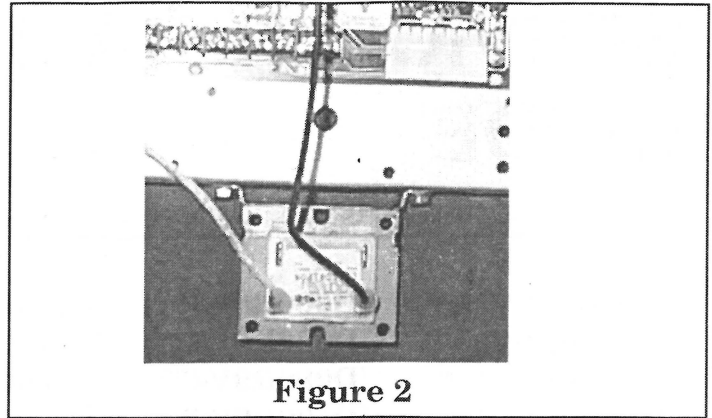

Figure 2
- A) Relocate the transformer to the bottom side of the platform. See Figure 2.